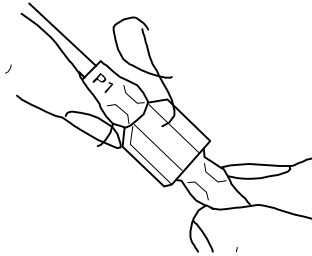

Figure 24 - Connecting P1 Wires
7. Insert the female port, which is on the white power supply wire (marked with P1), into the corresponding male port (marked with P1) (see Figure 24).